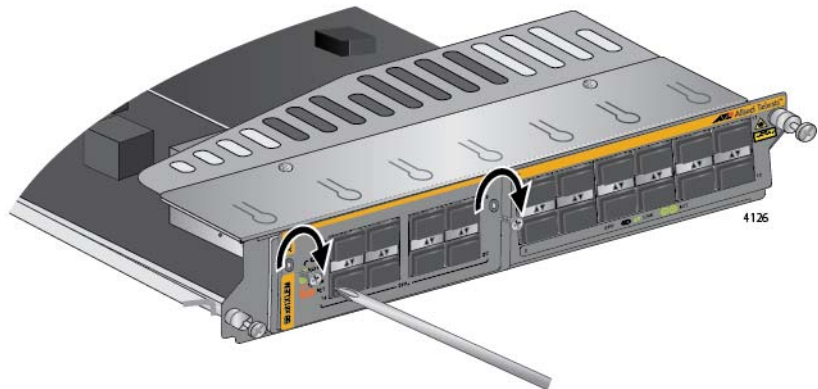

Figure 90. Securing the Expansion Module
10. With a Phillips-head screwdriver, install the two screws from step 4 to secure the expansion module to the line card. Refer to Figure 90.